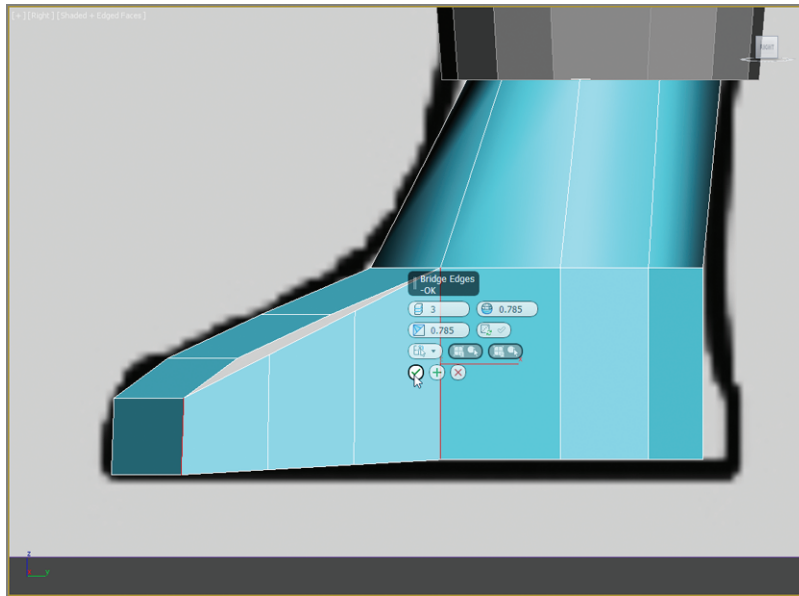

FIGURE 8.21 Use Bridge to fill the gap and connect the two selected edges.
13. Then in the Graphite Modeling Tools tab > Edges > Bridge > Bridge Settings, enter three segments, and bridge the gap, as shown in Figure 8.21.